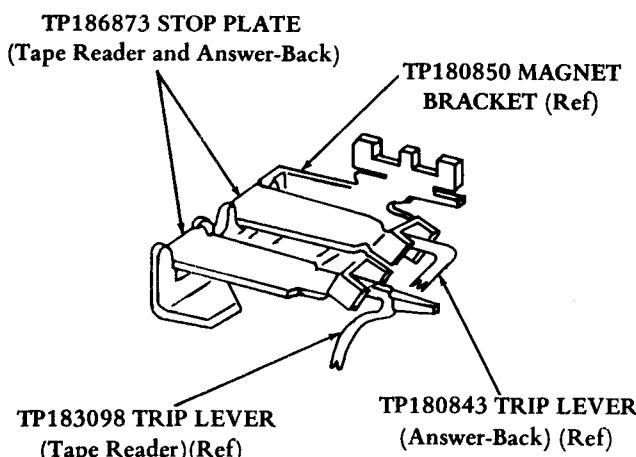

Figure 10 - Stop Plate for Tape Reader and Answer-Back Trip Levers of 3300 Series Coded Sets
- (d) Stop plate for ASR sets without tape reader trip magnet option and for KSR and ASR sets without answer-back trip magnet option (Figure 10):
- (1) The TP186873 stop plate is intended for use in the transmitter distributor and answer-back trip magnet area.
- (2) The stop plate provides an optional feature for selection of three different voltage type magnets for transmitter distributor or answer-back trip operation. To select and add one of the three magnets for transmitter distributor or answer-back trip feature, their associated armature, armature extension, and hardware must also be added.
- (3) The function of the stop plate prevents the TP183098 clutch trip lever or the TP180843 answer-back trip lever from operating when either the transmitter distributor trip or answer-back magnets and associated armature parts are absent.
- (4) The TP186873 stop plate is installed in either the transmitter distributor trip lever magnet position or answer-back position or both (Figure 10).